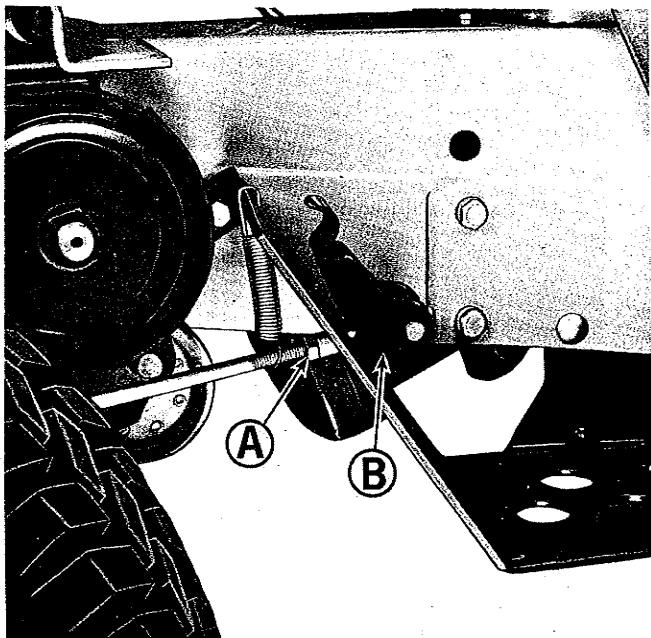

Figure 12. Parking brake adjustment on right side of tractor.
1. See figure 12. **NOTE: ALL DIRECTIONS GIVEN FOR ADJUSTING THE PARKING BRAKE, ARE AS IF YOU ARE STANDING AT THE FRONT OF THE TRACTOR LOOKING BACK TOWARD THE PARKING BRAKE.** Loosen nut (A) by turning it clockwise.
2. See figure 12. After insuring the tractor is either on a level surface or the wheels are blocked so it will not roll, pull forward on the parking brake handle (B) to disengage the parking brake.
3. Rotate parking handle (B) clockwise to tighten the parking brake, or counter-clockwise to loosen it. Turn the brake one complete revolution when making any adjustment.
After turning the handle (B) one revolution place it in the engaged position to check it for correct adjustment. The correct engaged position is as shown in figure 12, with the handle at approximately in the 11 o'clock position as you face it from the front of the tractor.
4. After the correct adjustment has been made, use a wrench to tighten nut (A) securely by turning it counter-clockwise.